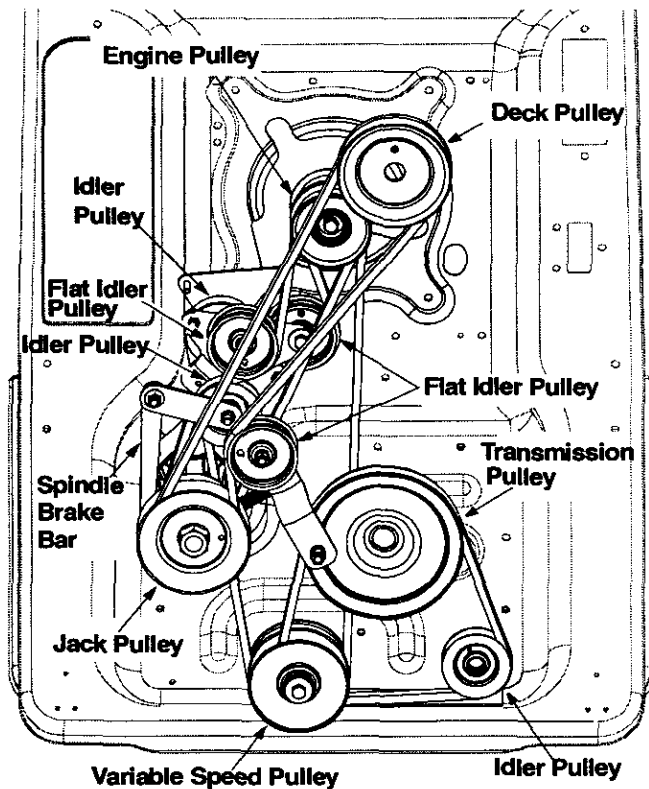

Figure 25
1. Follow Figure 25 for routing of belts and pulleys.